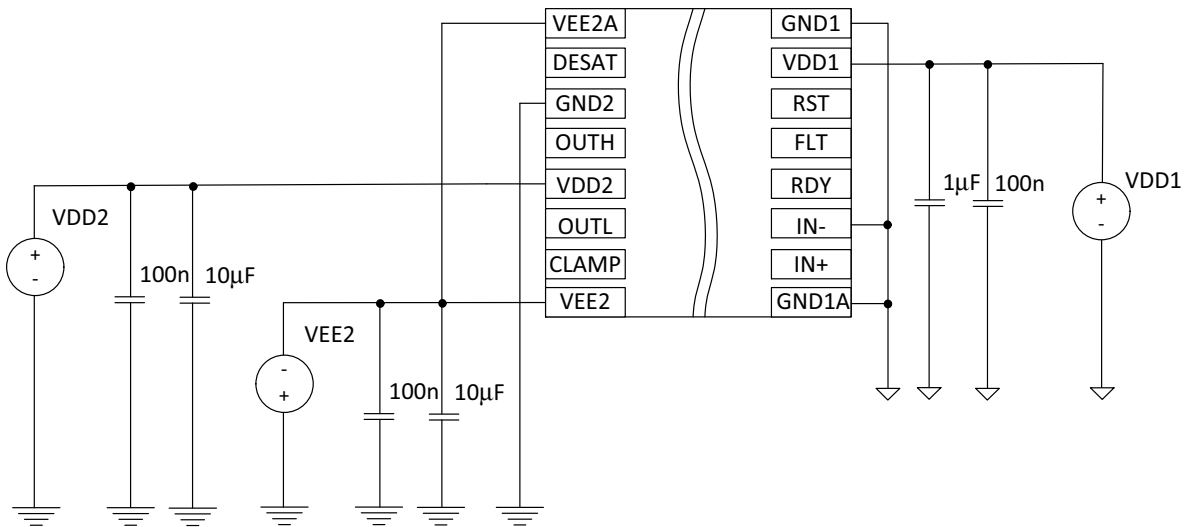

Figure 24. Bipolar Power Supply
- In bipolar power supply the driver is typically supplied with a positive voltage of 15 V at VDD2 and negative voltage -5 V at VEE2 (Figure 24). Negative power supply prevents a dynamic turn on throughout the internal IGBT input capacitance.